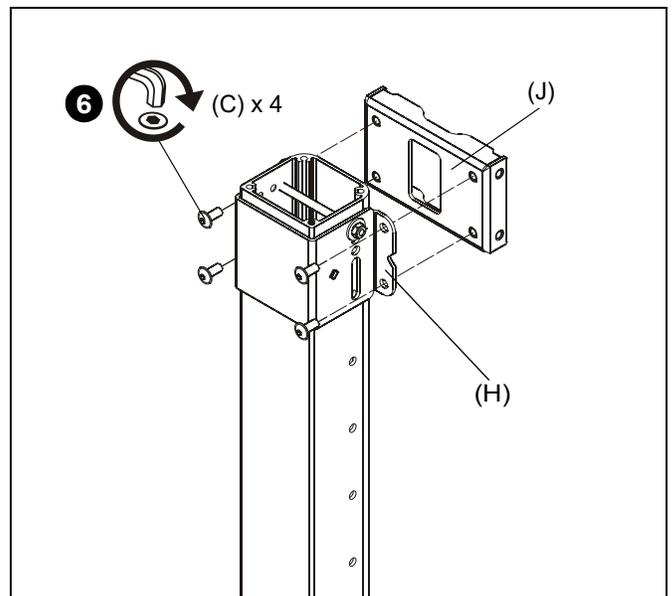

Figure 4
- Use four 5/16-18 x 3/4" button head flange screws (C) to secure each attached clamp bracket (H) to each quick connect base (J). (See Figure 4)